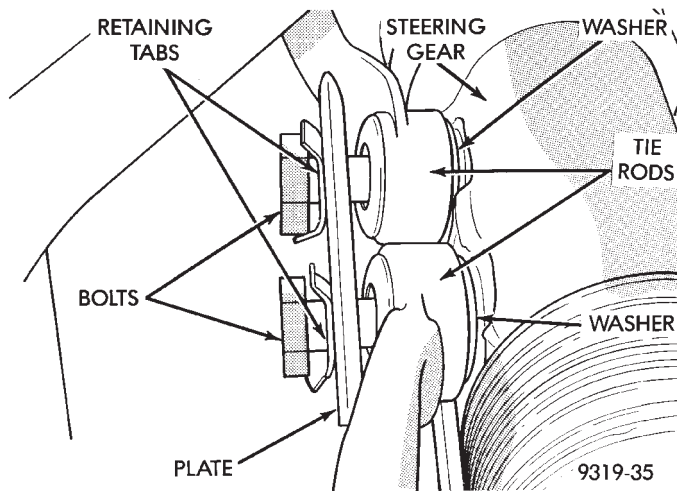

Fig. 11 Tie Rod Attachment To Steering Gear
(18) Bend back retaining tabs on bolts attaching tie rods to steering gear. Loosen and remove bolts attaching tie rods to steering gear (Fig. 11). Lay tie rods, bolts and plate as an assembly on bell housing of transaxle.